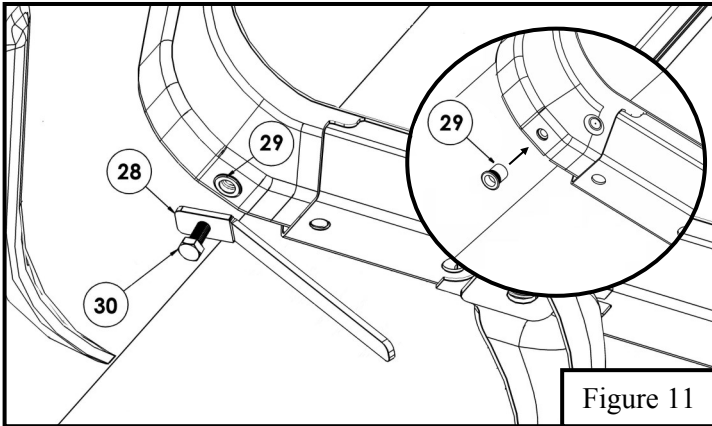

Figure 11
12. Once riv-nut is in place use the supplied Riv-Nut Hand Tool (Item 28) by applying pressure on the surface of the previously placed M8 riv-nut. Use the supplied black M8 bolt (Item 30) and begin to torque the bolt through the hand tool and into the riv-nut while constantly applying pressure to assure the M8 riv-nut does not spin. Once the riv-nut is fully installed, grab (Item 24) and install with supplied M8 hardware and Factory M12 Bolt. See **Figure 11 and 12**
16. For Step Board installation to the previously installed mounting brackets use the supplied M8 hardware with short bolts on center mounting locations and use M8 hardware with long bolt for all other mounting locations. See **Figure 11 and 12**.